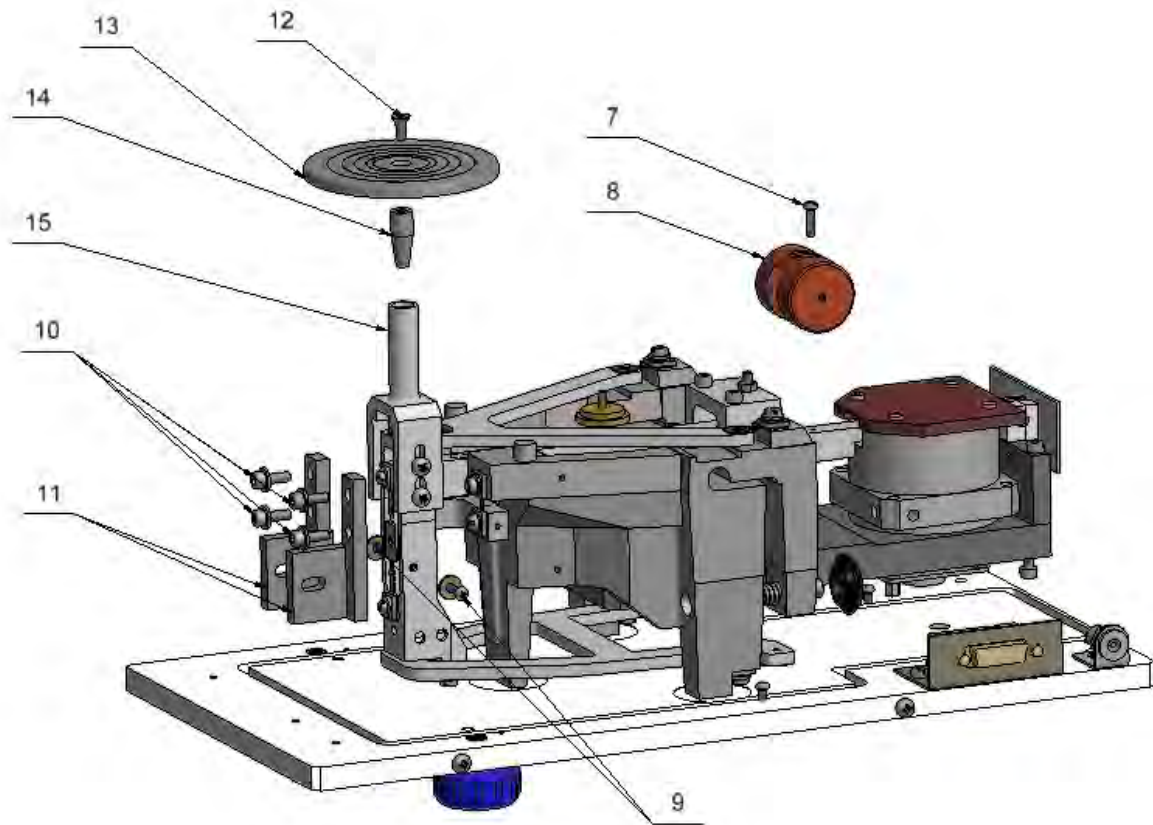

Fig.2
4. Assembly and fix ballast weight (8) using M3 screw (7). (Fig.2)
- a. Undo two M3 screws (9)
- b. Undo four M4 screws (10)
- c. Remove two rocker interlocks (11)
- b. Plug the device to mains, connect an indicator (16) (operating panel) to it (Fig. 1) and check the number of divisions by depositing maximum load, permissible for the comparator, onto the weighing pan (13) (Fig. 2)